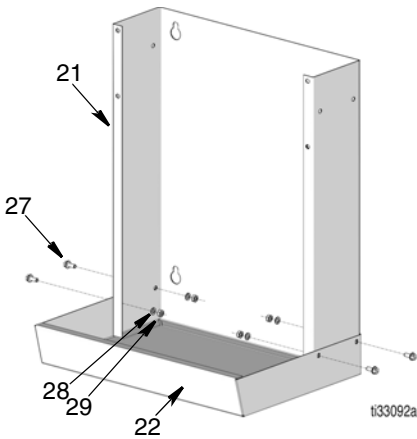

FIG. 5
1. Attach dispenser wrapper (21) to drain pan (22) using screws (27), lock washers(28) and nuts (29) and existing holes. Tighten nuts securely. (See FIG. 5).